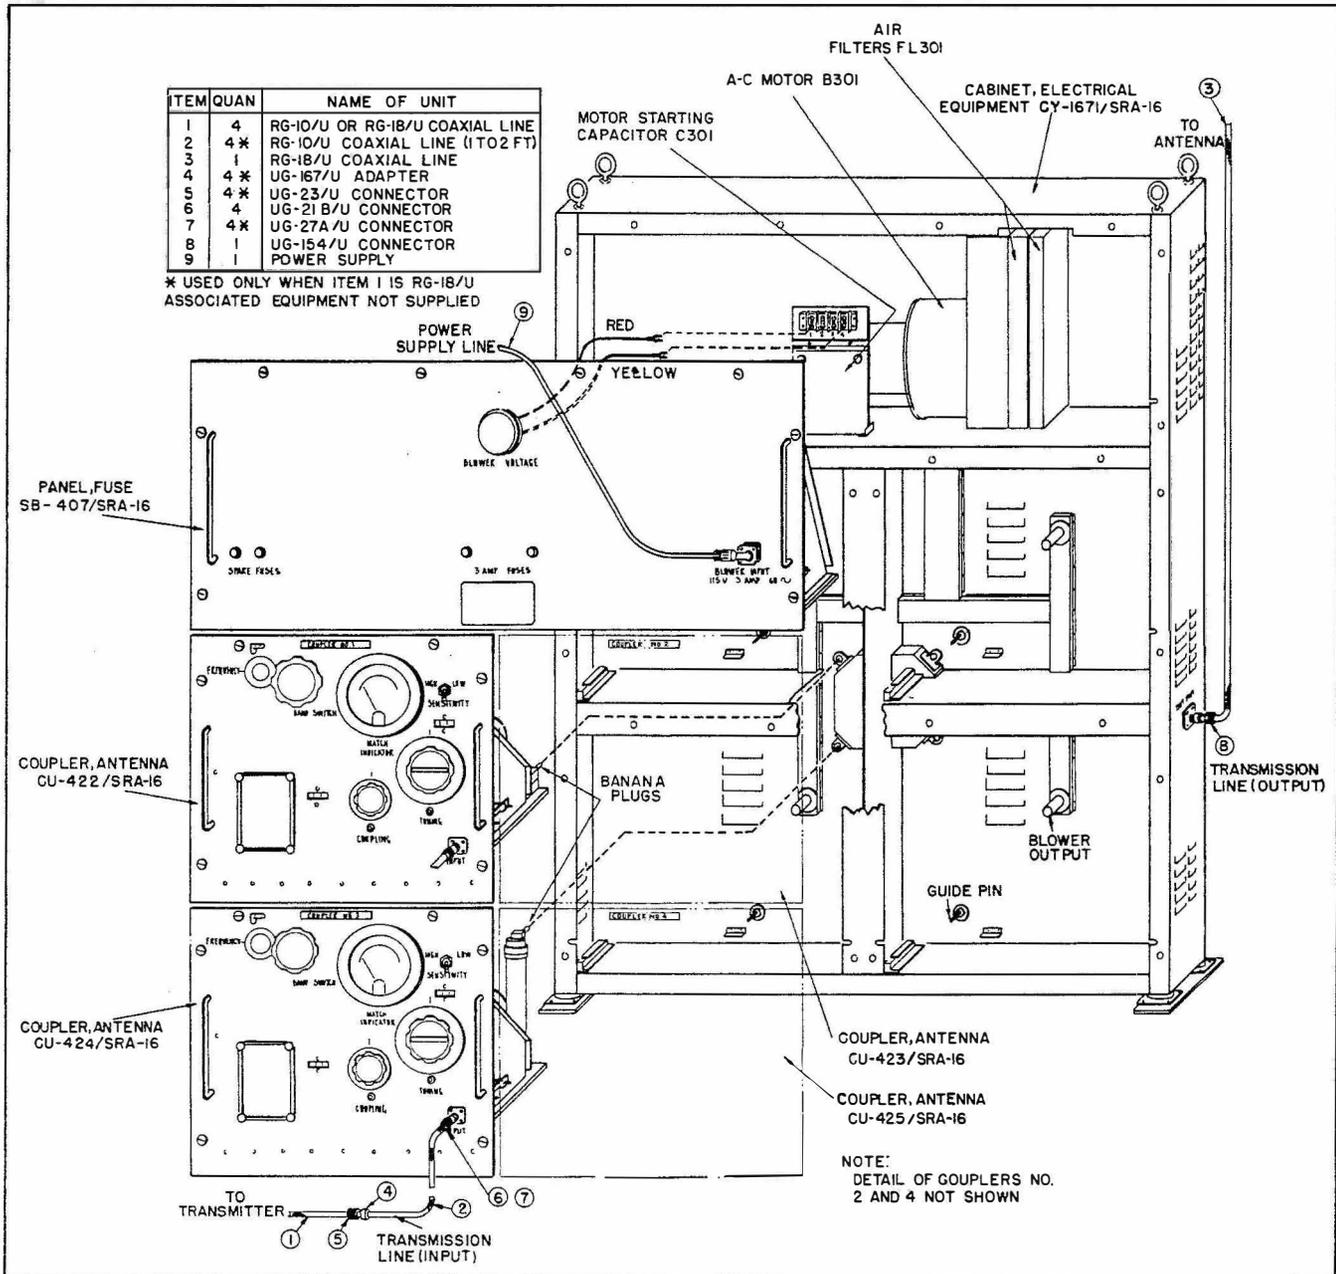

Figure 3-2. Installation Details
(2) PANEL, FUSE SB-407/SRA-16.—Release the four knurled panel screws in the fuse panel and withdraw the panel to the stop. Note if the two leads to the blower voltage indicator lamp are connected to the terminal board near the blower motor. If not, connect the two spade terminated lugs from the lamp to terminals 1 and 4 of TB301, see figure 3-2.
a. GENERAL.—Figure 3-2 illustrates the cable assemblies connected to a coupler group. There are no critical lengths of coaxial transmission line; however, it is always good practice to keep these lines as short as possible.
c. TRANSMISSION LINE (INPUT) CABLE ASSEMBLY.—When the transmitter output cable (item 1 of figure 3-2) is type RG-10/U coaxial line, connect its terminating plug to angle adapter UG-27A/U. Connect the angle adapter to the INPUT receptacle of the antenna coupler.